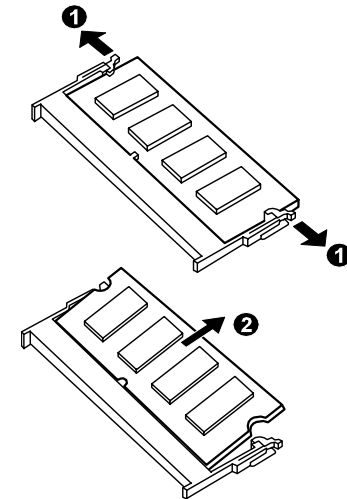

Figure 5-18. Removing the SO-DIMM
1. To install the SO-DIMM, align the SO-DIMM's notched part with the socket's corresponding part and firmly insert the SO-DIMM into the socket at an angle. Then push down until the retaining clips lock the SO-DIMM into position. (Refer to Figure 5-18 earlier.)